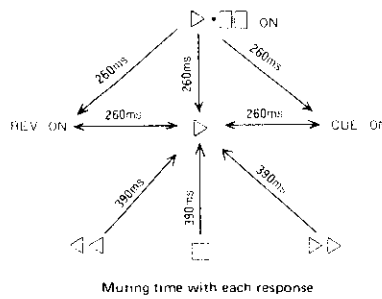

Fig. 14
- Fig. 14 gives the responses to the peripheral switches.